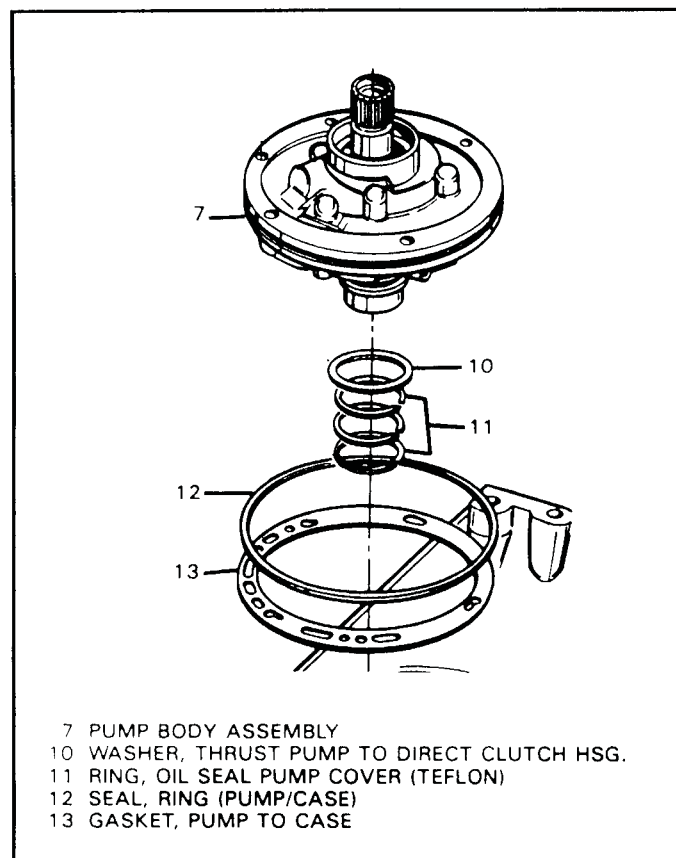

Figure 104
29. Install thrust washer (10) onto the pump assembly as shown in Figure 104, and retain with a small amount of "Trans-Jel".
30. Install the three sealing rings into the grooves on pump cover as shown in Figure 104, with the scarf cuts assembled properly.